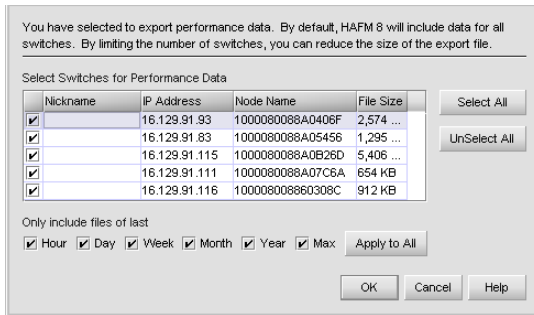

Figure 20 Select Switches dialog box
4. Performance data is an optional feature. If you purchased this option, you can select the switches for data export (Figure 20).